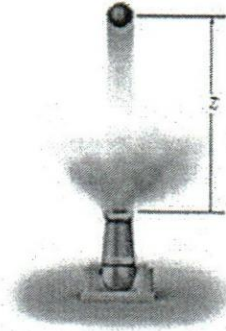

Figure 3
- a) A 10kg projectile is fired vertically upward from the ground, with an initial velocity of 50m / s, figure 3. Determine the maximum height to which it will travel if